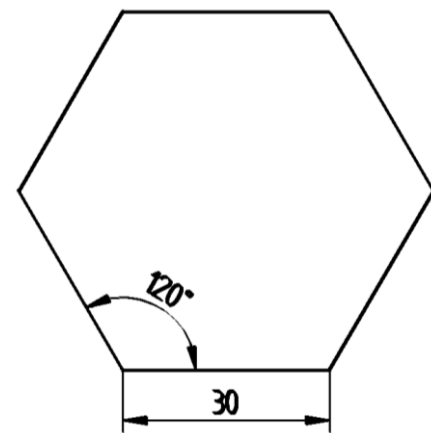

Fig. 1.44 Hexagon
8. Select dimension command  select the required line and geometry, to dimension the hexagon as in Fig. 1.44.